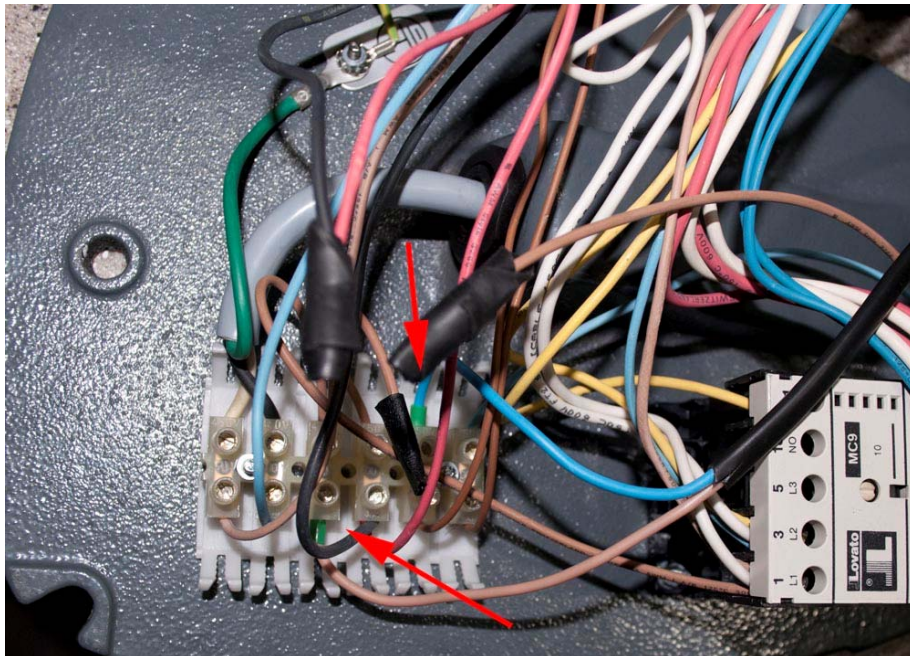

Figure 5. Wires are placed. See text for details.
Step 3, Install the new cable supplied with the Auber controller. In Figure 5, the red arrows point to the green terminal pins of the cable. All the exposed wires are covered with electric tape.